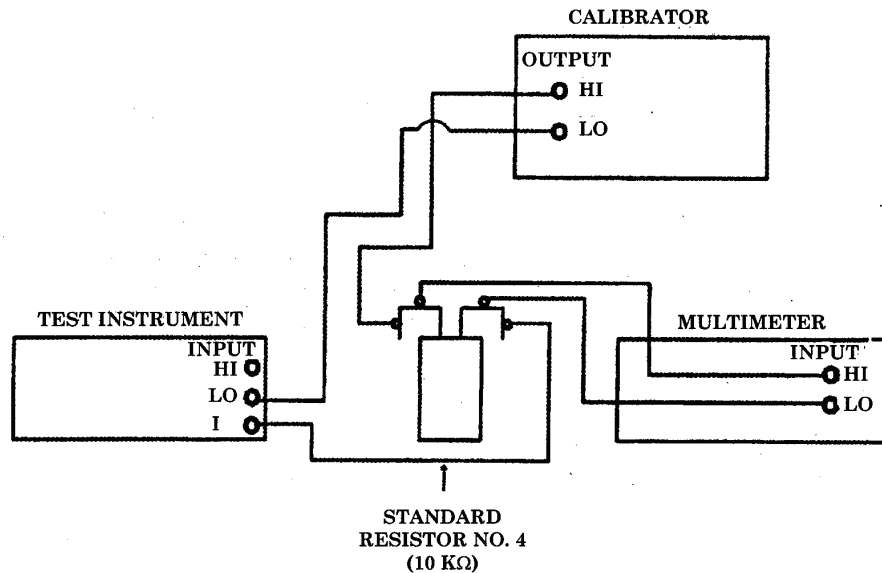

Figure 3. Dc current – equipment setup.
(7) Press TI keys as listed in (a) through (c) below:
- (8) Perform paragraphs 13 through 17 below on multimeter (not TI) to establish manufacturer's 24 hour accuracy.
- (9) Connect equipment as shown in figure 3.
- (10) Set multimeter to measure dc voltage on 1 V range.
- (11) Press TI **FUNCTION/RANGE Range** ↑ or ↓ key to 100 μA range.
- (12) Set calibrator for a 100 μA dc output, then using output adjustment controls; adjust calibrator output for a 100.00000 (± 20 digits) TI indication.
- (13) Divide multimeter indication by standard resistor test report value. Calculated value will be between 99.99664 and 100.00336 μA .
- (14) Repeat technique of (9) through (13) above using standard resistors and settings listed in table 6. Calculated values will be within limits specified.